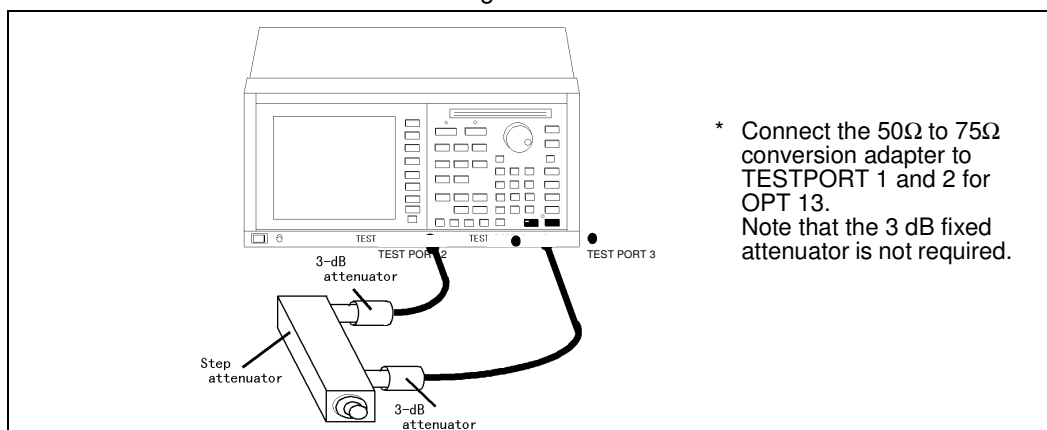

Figure 10-34 Connections for TEST PORT 2 Measurement for Dynamic Level Accuracy
- (1) Connect two 3-dB attenuators and step attenuator using the RF cables between TEST PORT 2 and TEST PORT 3 shown in Figure 10-34.